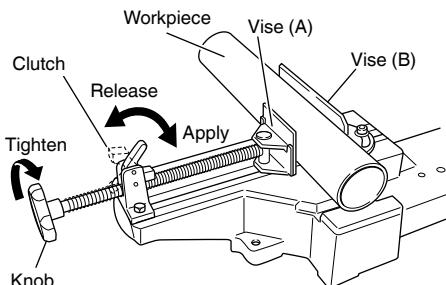

Fig. 12
- (1) Place a workpiece on the top surface of the base, and press it against vise (B).
- (2) Release the clutch, and move vise (A) until it comes in contact with the workpiece.
- (3) Apply the clutch, and turn the knob clockwise to secure the workpiece. (Fig. 12)